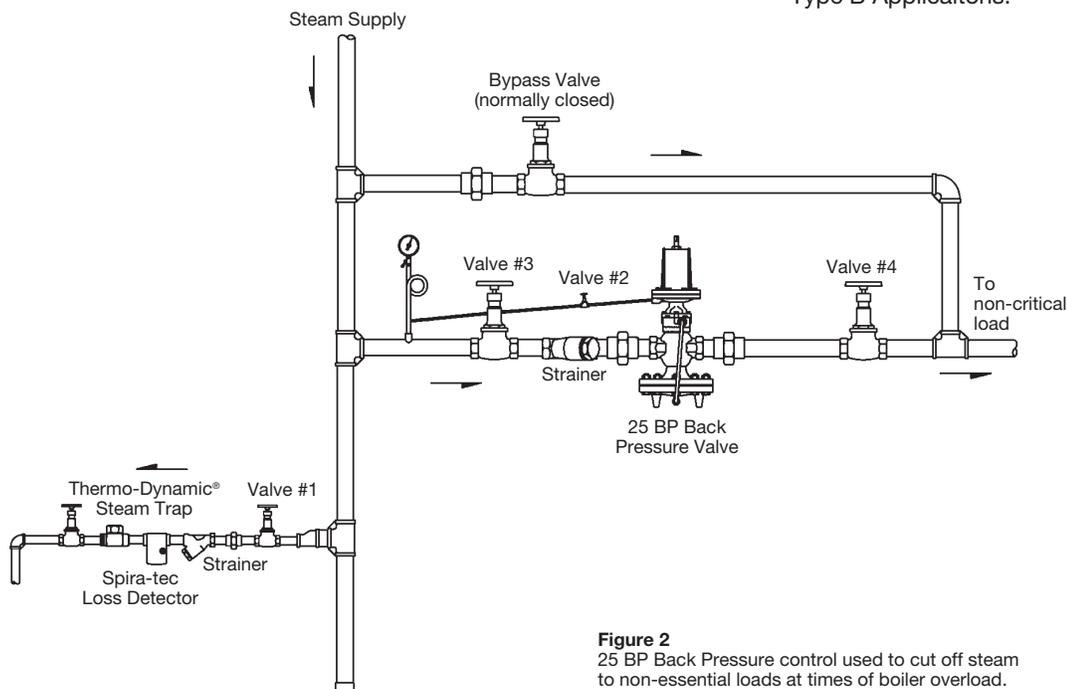

Figure 2
- Type B. For automatic shedding of non-essential steam loads when peak demand causes line pressure to fall.** The main valve is normally open and is closed by the pilot when inlet pressure drops below the set point. (Figure 2)
A typical hookup is shown on Figure 2. This application automatically shuts off steam supply to non-critical loads at peak load times when boiler capacity is not sufficient to supply steam to essential requirements. When boiler capacity is available and inlet pressure rises, the 25BP regulator will again open and automatically supply steam to non-critical loads.
1. Check that 25BP regulator is installed with sensing line connected back to the inlet and make certain ALL stop valves are closed (Figure 2, #2 through #5).